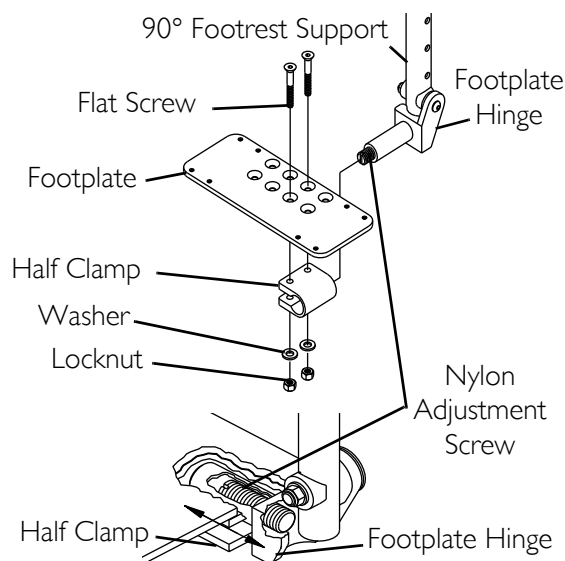
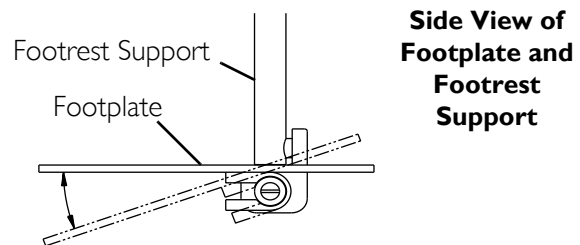
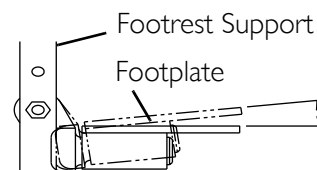

FIGURE 9.9 Installing Adjustable Angle Flip-up Footplates
FIGURE 9.10 Angle Adjustment
FIGURE 9.11 Perpendicular and/or Inversion/Eversion Adjustment
NOTE: For this procedure, refer to FIGURE 9.9.
NOTE: For this procedure, refer to FIGURE 9.9 on page 50.
NOTE: For this procedure, refer to FIGURE 9.9 on page 50 and FIGURE 9.10.
1. Loosen, but DO NOT remove, the two flat screws, washer and locknuts that secure the footplate to the footplate hinge (FIGURE 9.9).
2. Position the footplate to the necessary angle to accommodate the user (FIGURE 9.10).
NOTE: For this procedure, refer to FIGURE 9.9 on page 50 and FIGURE 9.11.
1. Insert a flathead screwdriver through the half clamp on the footplate (FIGURE 9.9).
2. Slowly turn nylon adjustment screw in or out until footplate is perpendicular to the footrest assembly or the desired inversion or eversion is obtained (FIGURE 9.11).